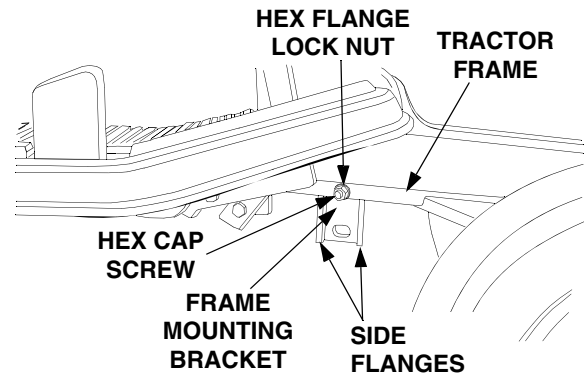

Figure 13
running boards, locate the forward most open hole in each side of the tractor frame. Refer to Figure 13.
4. Slide the snow thrower assembly rearward until the channel brackets of the hitch assembly engage the frame channels of the tractor. See Figure 13.